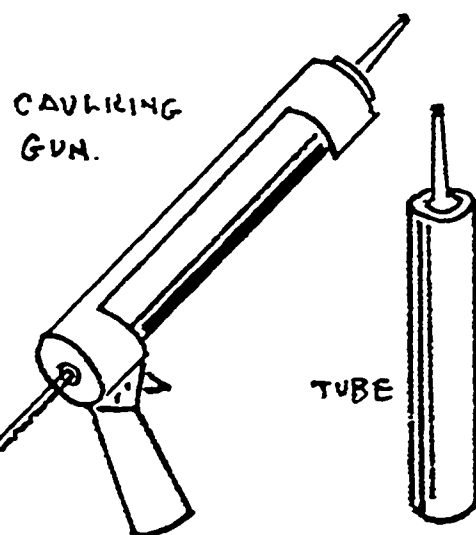

FIG 405
5. Wood filler, caulking compound. See Figure 405.